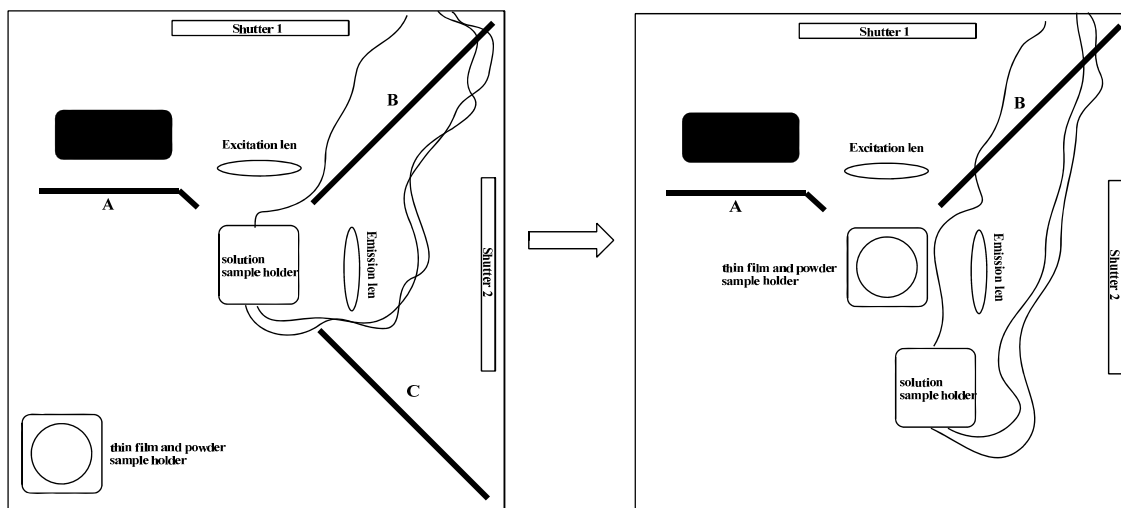

Figure 1. Fluorometer sample chamber (top view)
- A. First unscrew the black board C on the bottom right corner, and detach the Emission lens. Then carefully unscrew the solution sample holder, which is connected with several cables (und detachable) and put the solution sample holder away (be careful of the wires). Install the thin film and powder sample holder on the same position of solution sample and put the Emission lens back (see Figure 1.)